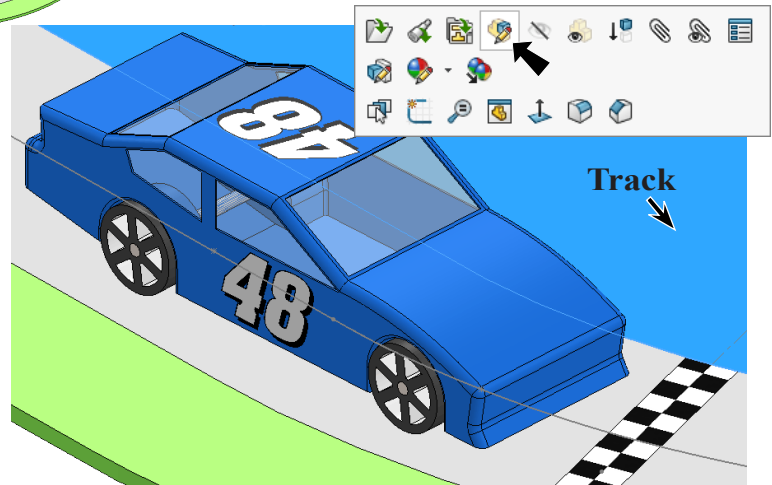

Fig. 3
Step 3. Click the **Track** and click **Edit Part**  on the context toolbar, **Fig. 3**.